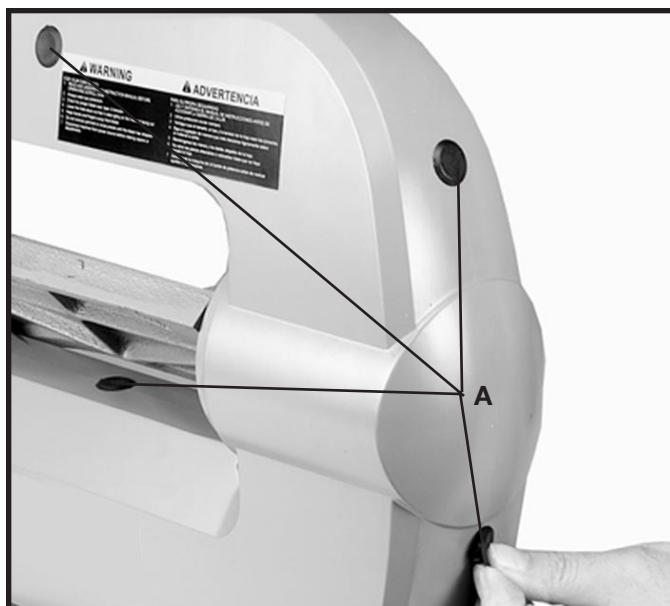

Fig. 29
2. Remove four rubber grommets (A) Fig. 29 that cover the lubrication access holes.
4. Reassemble the four grommets as shown in Fig. 29.